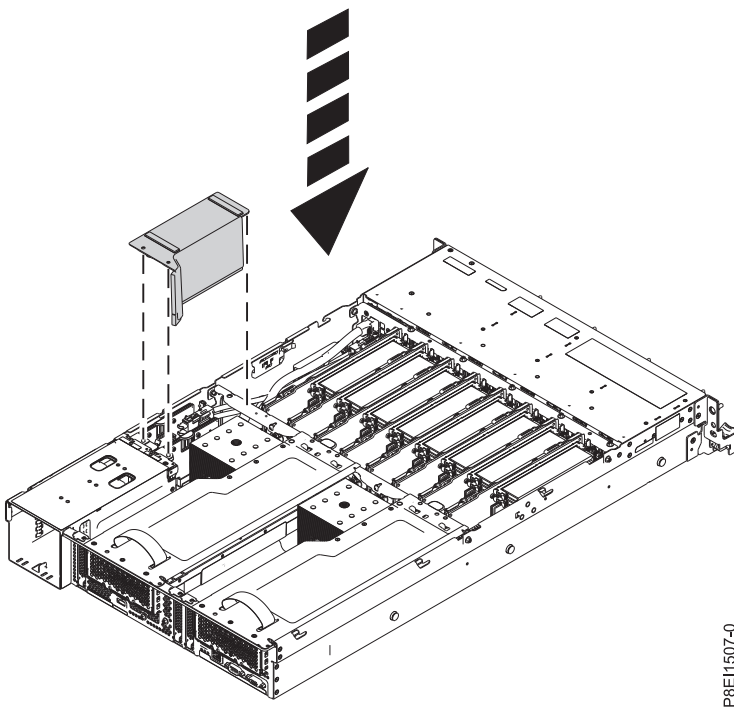

Figure 105. Installing the power riser air baffle
8. Install the power riser air baffle. See Figure 105 on page 100. Ensure that the holes in the baffle align with the pins on the system.